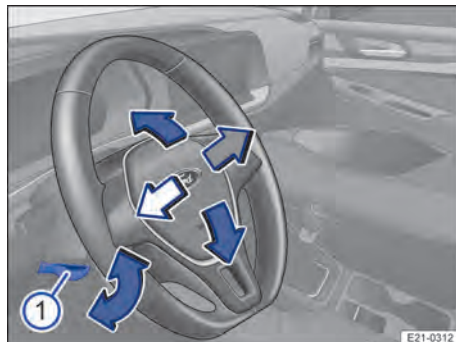

Fig. 61 Below the steering wheel in the steering column trim: lever for adjustment of the steering wheel position.
1. Push the lever down → Fig. 61 ①.
3. Push the lever → Fig. 61 ① up firmly until it is flush with the steering column trim → ⚠.